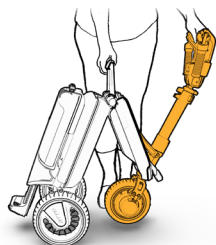

Figure 8
6. Tilt ATTO toward the rod until the front wheel touches the ground (see Figure 8).